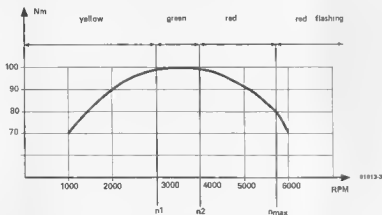

Figure 3. The fuel economiser does not indicate the exact number of revs, but gives a general idea of whether they are too low, too high or just right.
Figure 3 shows how the display works in relation to the torque/rev curve. Three LED's are sufficient. An extra acoustic signal means you don't have to keep your eye on the LED's continuously. A short tone signals the transition from the green to the red range and indicates it is time to change gear. When the maximum number of revs is exceeded an intermittent warning note will be produced.
2. The lowest ($n1$) and highest ($n2$) limits of engine speed are derived from the engine torque/rev curve (see figure 3). If this is not given in the manual, you should ask your car dealer.